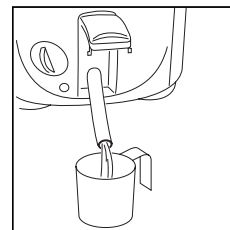
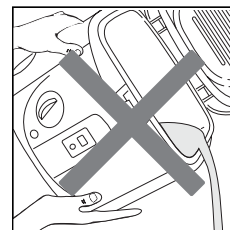

fig. 7
fig. 8
4. Let the liquid flow out into a container (Fig. 7), ensuring that it does not spill. Never empty the deep fryer by tilting it or turning it upside down (Fig. 8).